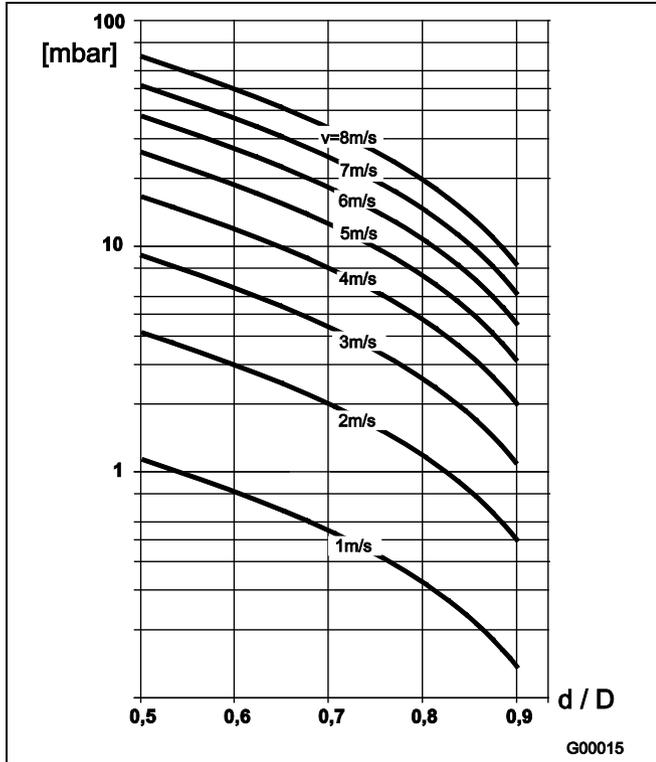

Fig. 23
- Determine the flow velocity based on the flow range nomograph (Fig. 23).
- Read the pressure drop on the Y-axis in Fig. 23.